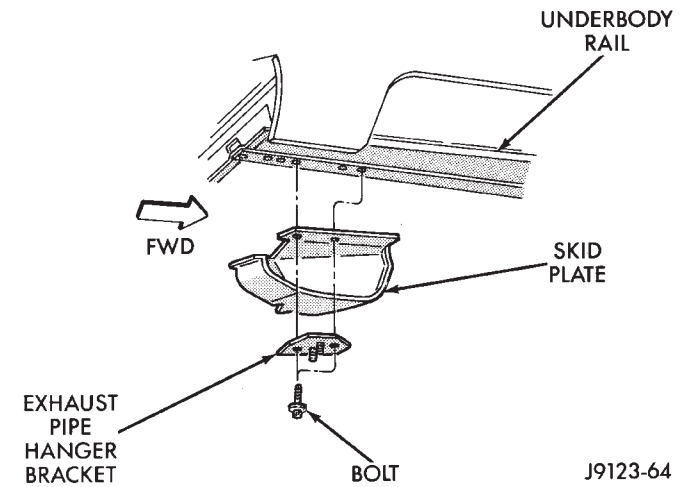

Fig. 5 Fuel Tank Skid Plate W/O Trailer Hitch Or Tow Hook
- (1) Position a support under skid plate.
- (2) Remove the bolts that attach skid plate to underbody side rails (Fig. 5 and 6).